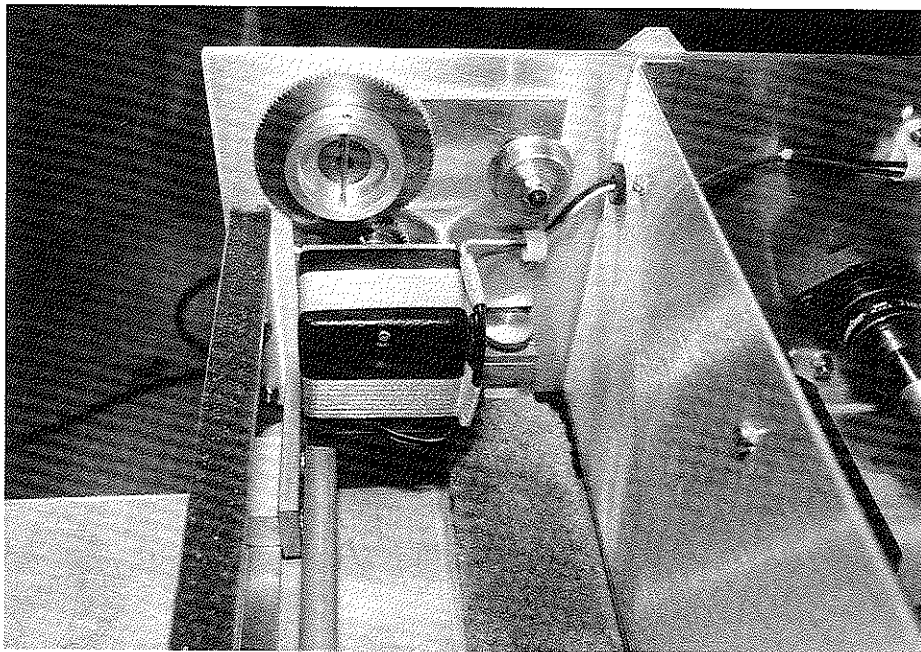

FIGURE 23
A. Duster gear replacement can only be done by removing the duster motor drive assembly. To do this, follow these steps: SEE FIGURE 23.